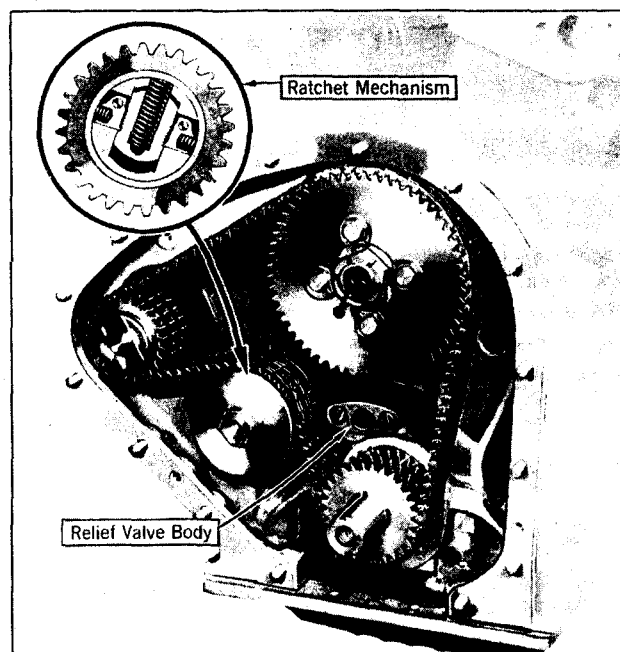

Fig. 35. The timing chain adjustment is automatic.
**Automatic Chain Adjuster:** The automatic adjuster is similar in principle to the automatic adjuster with which the first Cadillac 314 cars were equipped. On the V-16, however, the adjustment works on the back of the chain and the idler sprocket moves toward the camshaft to take up the slack. See Fig. 35. The operation of the slide and ratchets is practically the same as on early 314 cars.